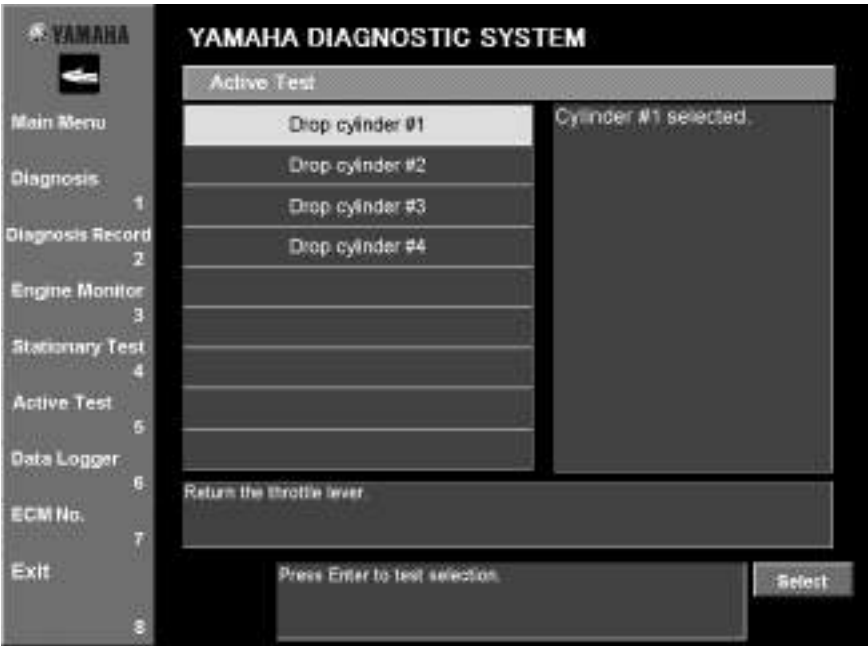

Fig. 55
1. Select which ignition and fuel you wish to cut by either clicking it or pressing the up or down arrow keys on your keyboard. (Fig. 55)
2. Click the **Select** button or press the Enter key on your keyboard. (Fig. 55)